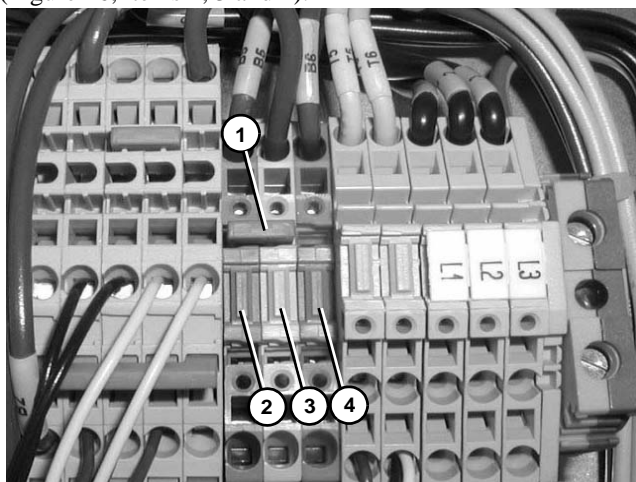

Figure 16
Remove the direction jumper (Figure 16, item 1) from the terminals. This jumper is not required.
Connect remote machine interface wires to the terminals (Figure 16, items 2, 3 and 4).
Closing a contact between the blue terminal (Figure 16, item 2) and the white terminal (Figure 16, item 3) will cause the control to run the motor in the forward direction.
Closing a contact between the white terminal (Figure 16, item 3) and the orange terminal (Figure 16, item 4) will cause the control to run the motor in the reverse direction.